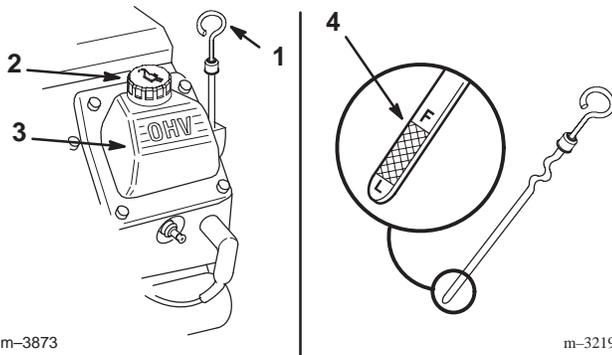

Figure 11
3. Clean around the oil dipstick (Fig. 11).
4. Pull out the dipstick and wipe the metal end clean (Fig. 11).
5. Slide the dipstick fully into the dipstick tube (Fig. 11).
7. If the oil level is low, clean around the oil filler cap and remove the cap (Fig. 11).